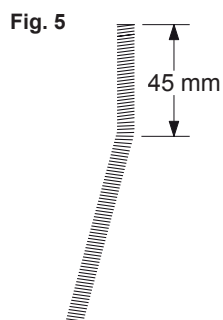

Fig. 5
- a) If the rack is pre-installed at a greater height than as shown in Figure 1, or if there is a likelihood of stagnating water, it may be necessary to raise the foundation plate, in this case bend the bars at approximately 45 mm as indicated in Figure 5.